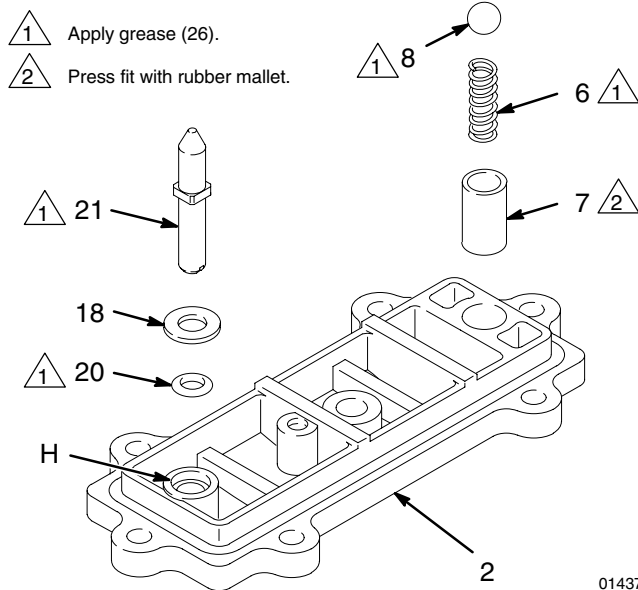

Fig. 10
1. If the detent collar (7) was removed, carefully install a new collar in a new cover (2), using a rubber mallet. See Fig. 10.
2. Grease the spring (6) and place it in the collar (7). Grease the ball (8) and set it on the spring.
3. Grease the o-ring (20) and install it in the hole (H) in the cover (2). See Fig. 10. Slide the washer (18) onto the blunt end of the reset shaft (21). Insert the shaft through the cover (2) until it seats.
4. Grease the spring (3). Place the link stop (4) inside the spring.